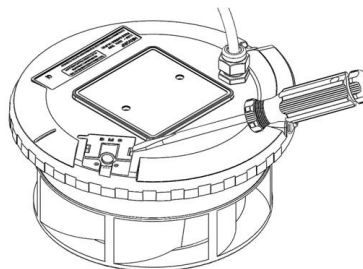

Figure 19 – Removal of BMS Gland
- 2.8.4 Using a screwdriver remove the BMS gland (*See Figure 19*).